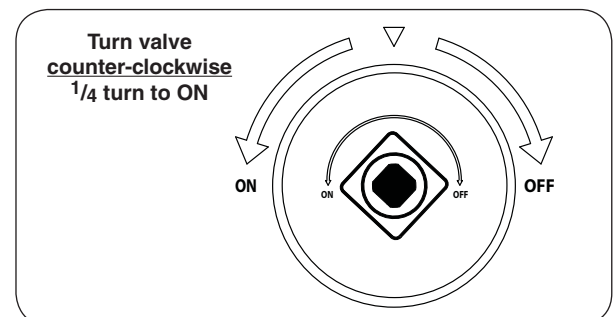

Fig. 27-2 ON/OFF key valve detail
3. Turn the ON/OFF key valve counter-clockwise a $1/4$ turn to the **ON** position (Fig. 27-2).